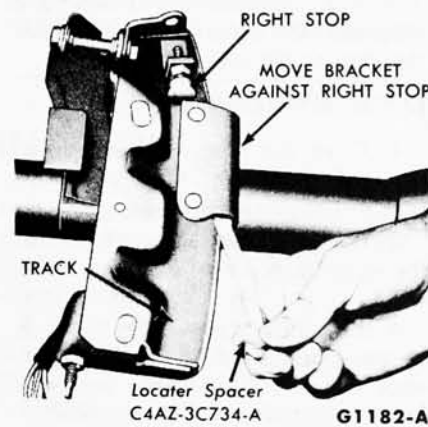

FIG. 11—Removing or Installing Locater Spacer
6. Position the selector lever in the hub and secure it with a roll pin. Install the nylon locating spacer on the track (Fig. 11).
5. Install the spacer shown in Fig. 11. Secure the column to the track with the two attaching bolts. Be careful when tightening the two column attaching bolts so as not to create a bind in the track.